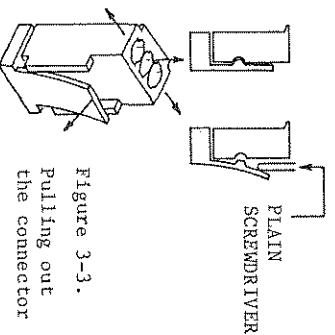

Figure 3-3.
- (1) Disconnect the input power cord from the input AC power line. Remove the cover referring to Section 4-1-3. Remove the clamping-screws of the PC board (A-650).
- (2) On PC board A-650, pull out connector D and insert it in connector position E. Do not forcefully pull out the connector as it is locked. To pull out the connector, see Figure 3-3.
- (3) Insert connector H (supplied) in connector position D.
- (4) Fix the PC board and the cover.
- (5) Post on the transparent cover above terminals ⑥ - ⑦ the following seal mark (supplied):
- (6) Post at a clearly visible position on the front panel or cover the following seal: REMOTE ON-OFF
- o The output is turned off when terminals ⑥ and ⑦ are shorted; it is turned on when the terminals are made open.
- o If the instrument has been set for the standard connections of terminals (standard connections of internal connectors A, B and C, and switch S), perform the following procedure starting by Step (5).
- (1) Disconnect the input power cord. Remove the cover referring to Section 4-1-3. Remove the clamping-screws of the PCB (A-650).
- (2) Change the connections of connectors A, B and C on PC board A-650 for the mating symbols. (See Figures 3-3, 3-5 and 3-8.)